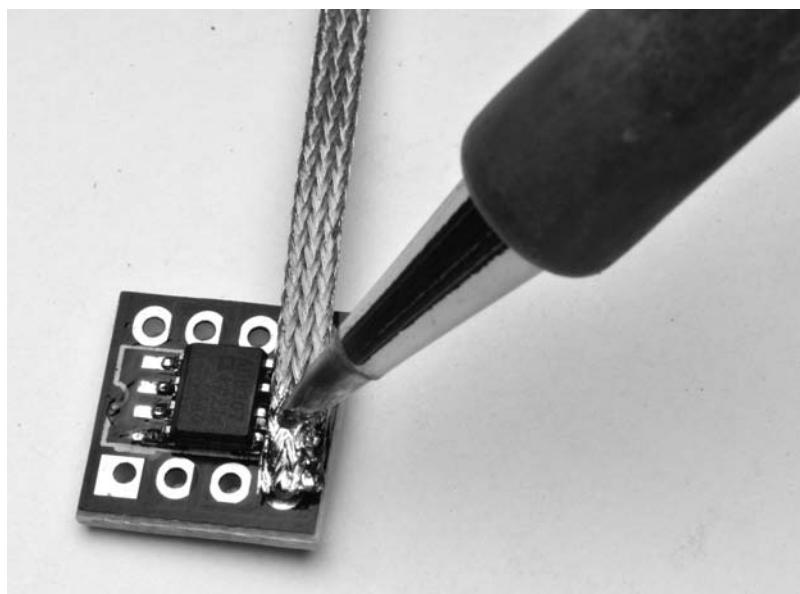

FIGURE 14-15 Remove the excess solder with solder wick.
4. Remove the excess solder with solder wick (Figure 14-15).